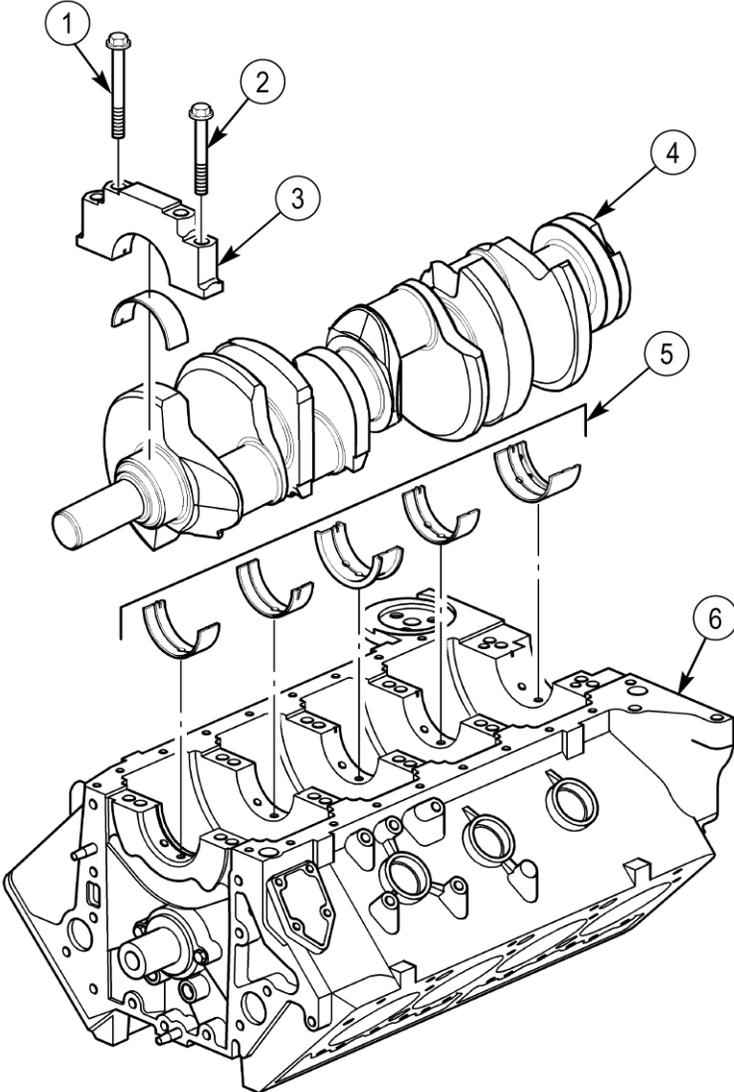

Figure 1
1. Remove all capscrews (1) and (2), bearing caps (3), if installed, and install upper halves of main bearings (5) in cylinder block (6) as shown in figure 1.
3. Install crankshaft (4) in cylinder block (6) as shown in figure 1.